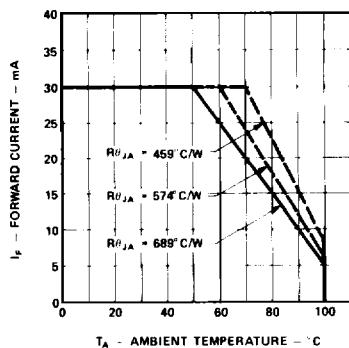

Figure 5. Maximum Forward DC Current vs. Ambient Temperature. Derating Based on  $T_j$  MAX = 110°C.
3. Derate linearly as shown in Figure 5.